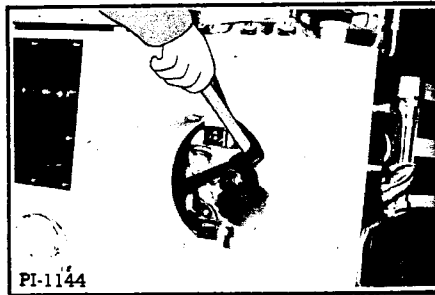

Fig. 34 Pulling Belt into Driven Sheave
5. Pull the belt with a pry bar to force it into the driven sheave (Figure 34). This will make it possible to replace the outside (engine) sheave half. Do not use a flat bar, as it will damage the belt.